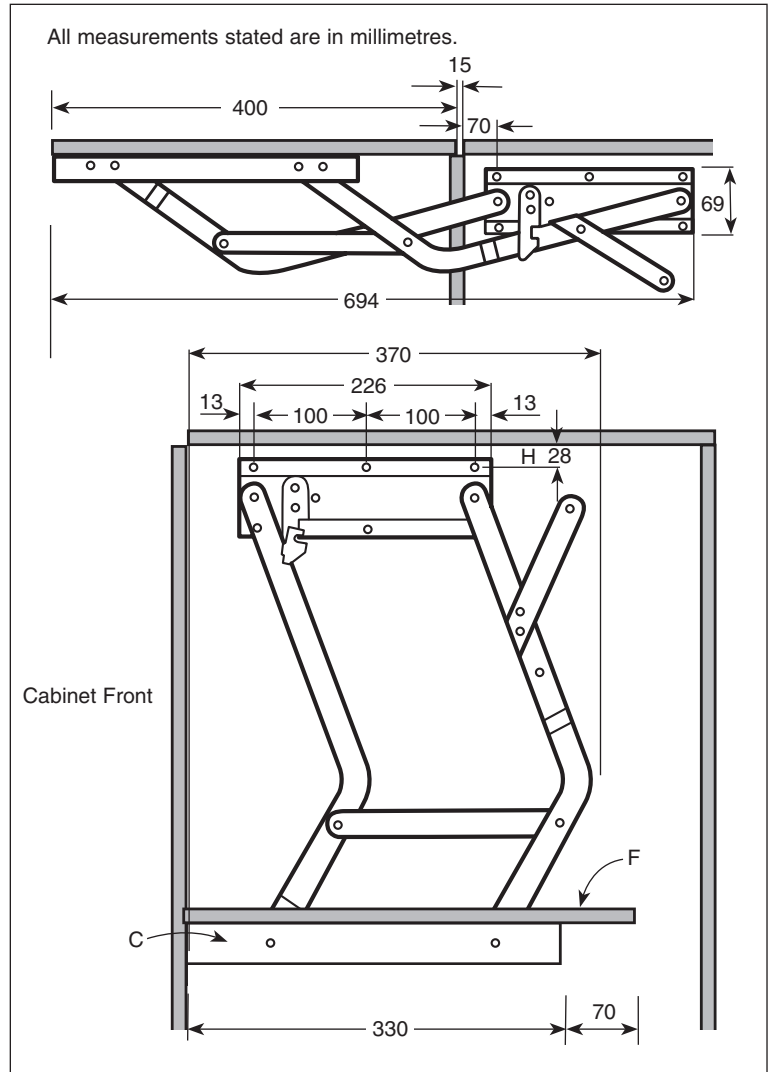
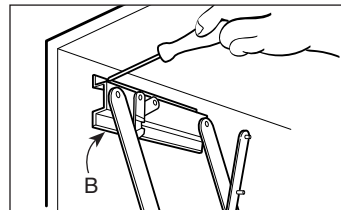
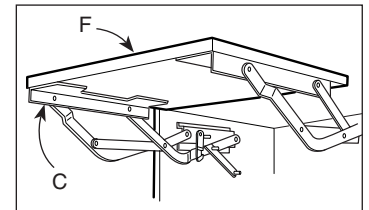

Figure 2
Figure 3
Figure 4
Install the hinge mounting plates (B – Figure 3) onto cabinet sides. Make sure to adhere to dimension H (Figure 2) to ensure tray or board will be swung exactly in front of the work surface. Screw tray or board (F – Figures 4 and 5) onto shelf supports (C) while hinges are kept horizontal and open to keep mechanism parallel. Pull lightly to lift and lock the cabinet tray or board into working position. The spring (G) ensures that the double-snap hooks remain securely fastened. To lower the appliance, simply lift the tray or board to release the locking mechanism, then lower it into the cabinet.